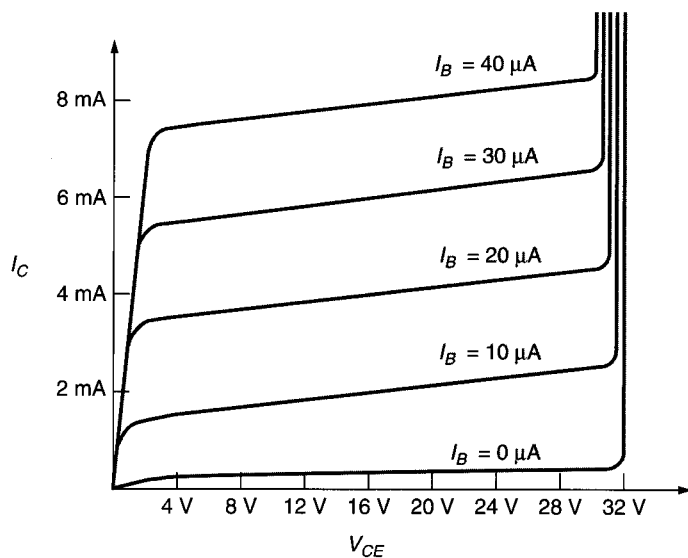

FIGURE 6.39
21. Refer to Figure 6.39. What is the range of breakdown voltages of the transistor represented by the collector curves?
22. Refer to Figure 6.39. What is the approximate value of  $I_C$  when  $I_B$  is  $40 \mu\text{A}$ ?
23. Refer to Figure 6.39. What is the maximum value of  $V_{CE}$  when the device is saturated?